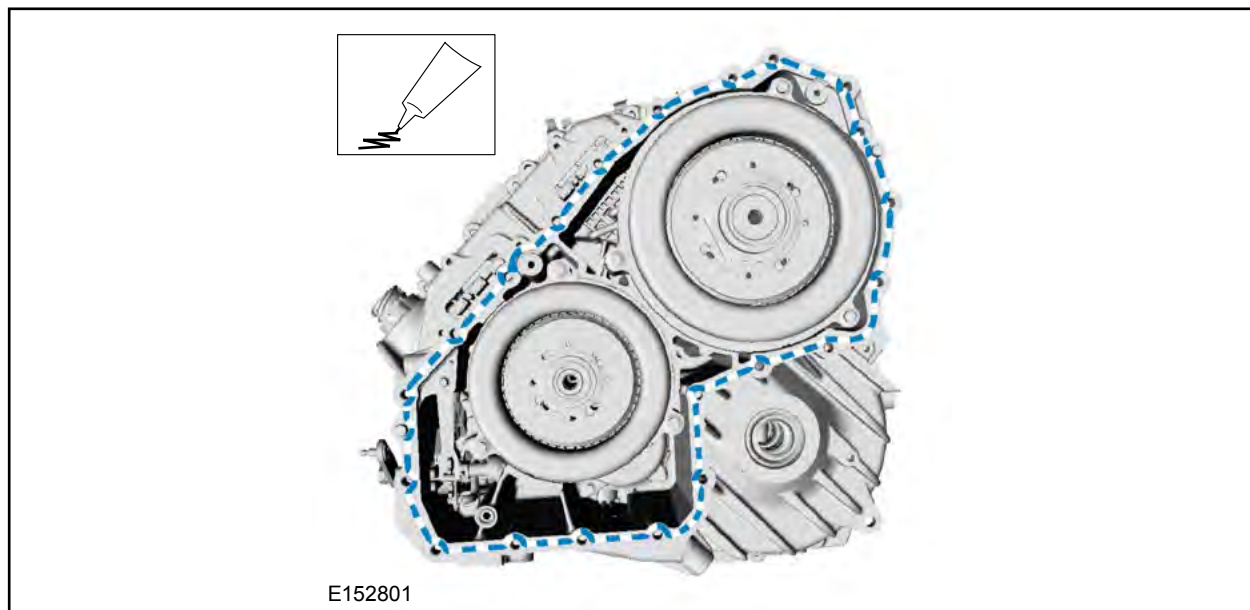

FIGURE 45
40. Apply Ultra Silicone Sealant / TA-29 to the transmission case assembly. See Figure 45.